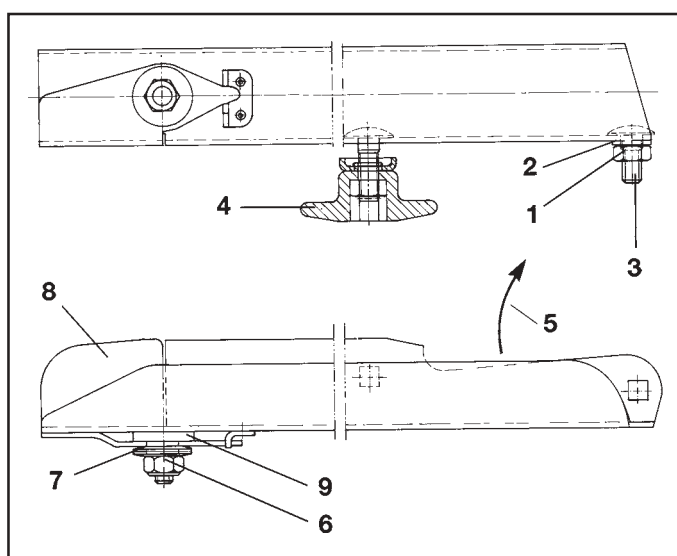

Fig. 9.3
- Slacken self-locking nut (Fig. 9.3/1).
- Remove washer (Fig. 9.3/2) and flat mushroom head bolt (Fig. 9.3/3).
- Slacken thumb nut (Fig. 9.3/4) and exchange spreading vanes.
- **Tighten the self locking nut (Fig. 9.3/1) in such a way, that the spreading vane can be swivelled by hand.**
Note the correct fitting of the spreading vanes. The open side of the U-shaped spreading vane shows into sense of rotation (Fig. 9.3/5).
- Slacken self locking nut (brass CuZn) (Fig. 9.3/6) and remove together with spring washers (Fig. 9.3/7).
- Exchange swivel blades (Fig. 9.3/8).
Mind plastic washer (Fig. 9.3/9) between spreading vane and swivel blade.
- Tighten self locking nut (Fig. 9.3/6) with a torque of **6 - 7 Nm**, so that the swivel blade can still be swivelled upwards by hand, however does not swivel up by itself during operation.